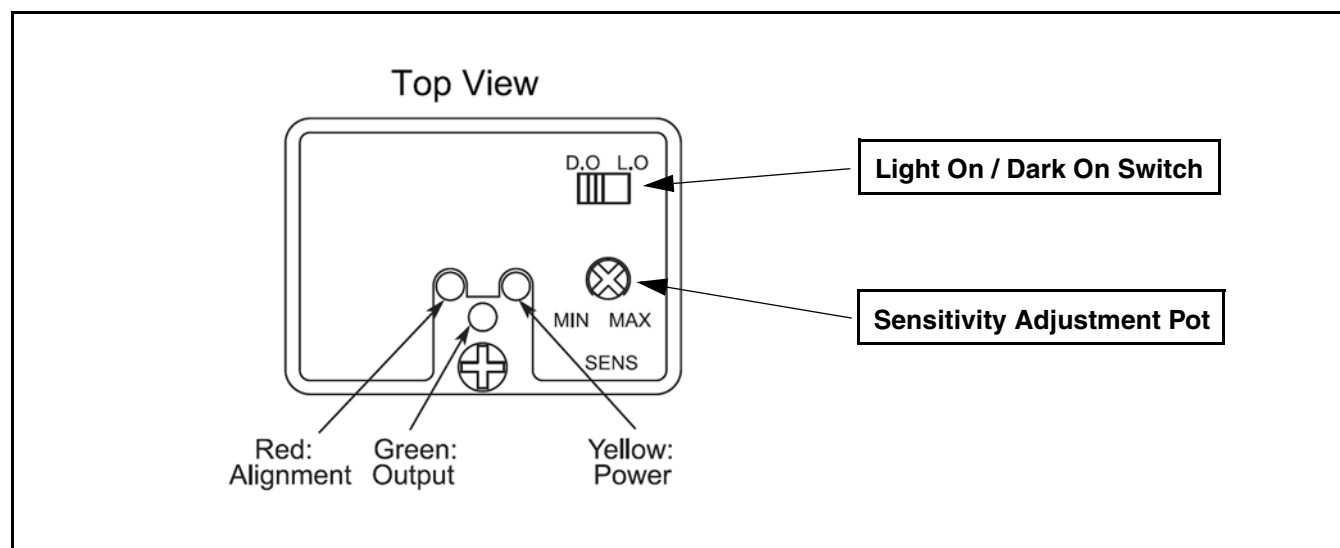

Figure 30
5. Photo eye comes preset to Light-On operation which causes the conveyor to run when the sensed zone is clear and stop when the sensed zone is blocked. For Dark-On operation move selector to D.O. position (**Figure 30**).